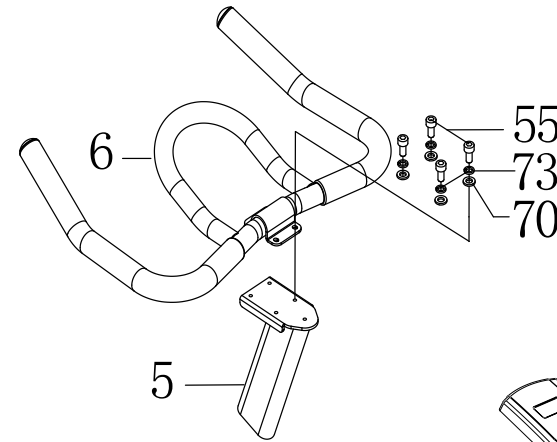
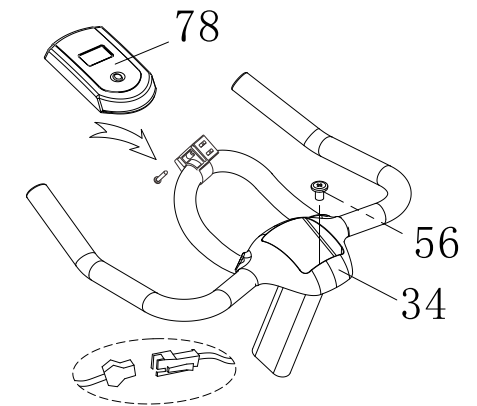

Figure 3
Figure 4
Attach the handlebar (6) and the handlebar Stem adjustment tube (5) with 4 pieces M6*12 screw(55), 4 pieces spring washer(73) and 4 pieces flat washer(70). As shown in Figure 3. Use the M6*10 screw (56) to install the handle cover (34) in the middle of handlebar. As shown in Figure 4 Then put the computer display (78) insert into the front iron piece of the handlebar, and connect 3 sets of connecting wires of display. Put the wires in handlebar adjustment tube. Insert the handlebar Post into the handlebar post tube of the main frame. You will have to slacken the knurled section of the Knob and pull the Knob back and then select the desired height. Release the Knob and retighten the plum knob.